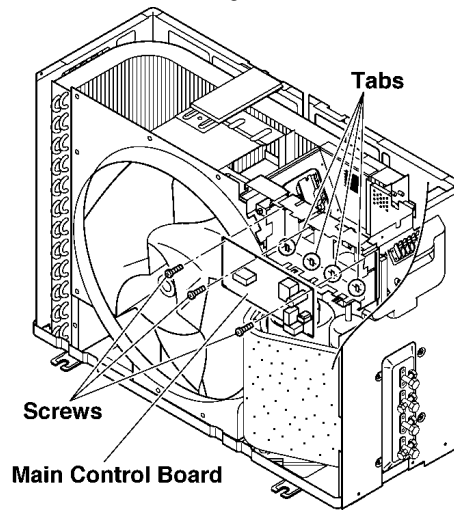

Fig. 24
5. Remove all connectors which are connected to the control board and remove the main control board from the power supply board. (Three screws, Four tabs) (Fig.24)